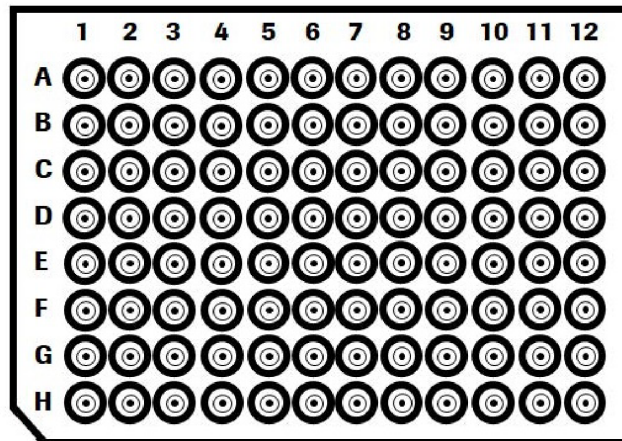

Figure 2: KAPA UDI Primer Mixes Plate layout.
1. Before removing the foil cover, ensure the plate is in the correct orientation before proceeding. In order to have well position A1 on the top left corner, the notched corner must be facing the user on the bottom left, as shown in Figure 2.